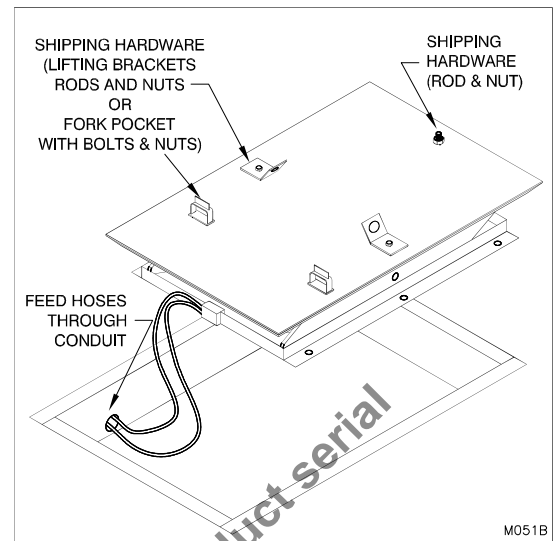

Figure 3: Moving the Lift Table
4. Remove any shipping materials, bolts and hardware. (See "Figure 3: Moving the Lift Table" on page 5.)
8. Hoist the lift table into the pit. **NOTE:** If the power unit is remote, ensure that the hydraulic hose is fed through the appropriate conduit. (See "Figure 3: Moving the Lift Table" on page 5.) If the power unit is self-contained, ensure the temporary wire is routed out of the pit for easy hook-up.